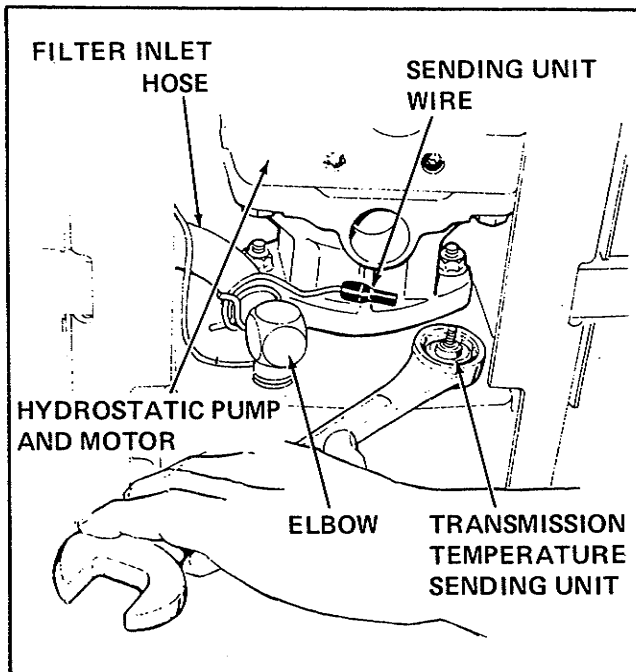

Figure 110. Draining Oil From Transmission
2. Drain oil from two lower forward points of the transmission. One of these is the transmission temperature sending unit and the other is the filter inlet hose elbow. Remove sending unit wire, and remove sending unit. See Figure 110. Disconnect filter inlet hose from elbow and remove elbow. Be certain oil drains into a proper container. Discard this oil.